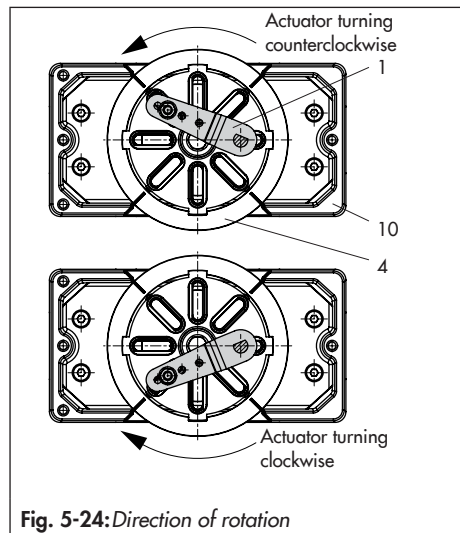

Fig. 5-24: Direction of rotation
- Unscrew the standard follower pin (2) from the positioner's M lever (1). Attach the follower pin (Ø5 mm) included in the mounting kit to pin position 90°.
- Mount connecting plate (6) for required G ¼ connecting thread or pressure gauge bracket (7) with pressure gauges on the positioner. Make sure that the two seals (6.1) are seated properly. Double-acting springless rotary actuators require the use of a reversing amplifier on the connection side of the positioner housing (see Chapter 5.6.7).
- Place positioner on housing (10) and screw it tight. Taking the actuator's direction of rotation into account, adjust lever (1) so that it engages in the correct slot with its follower pin (Fig. 5-24).